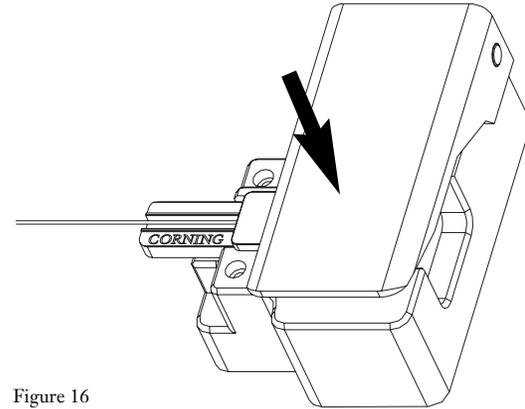

Figure 16
**6.8** While carefully holding the handler in position, with the coating butted against the elastomeric pad, slowly press the cleaver's handle as far as it will go (Figure 16).